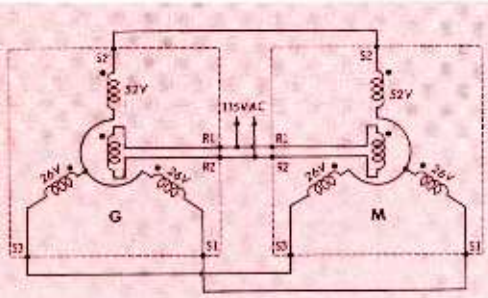

Fig. 4. Synchro generator-motor hookup "at rest" (both rotors zeroed).
A simple synchro system is shown in Fig. 4. A synchro generator (G) is connected to a synchro motor (M) with voltage applied to both rotors connected in parallel. Both units are identical electrically and physically except that the motor shaft is friction-damped so that it will come to a smooth stop after being turned. Generators and motors are sometimes called transmitters and receivers, respectively.
both units at zero degrees, conditions are as shown in Fig. 4. Each stator coil of the motor has induced into it the same voltage as its counterpart in the generator. As far as the interconnections are concerned, these voltages are equal and opposite; therefore, there is no current. This condition will always be true as long as the two rotors are in corresponding positions, regardless of the angle between stator and rotor.